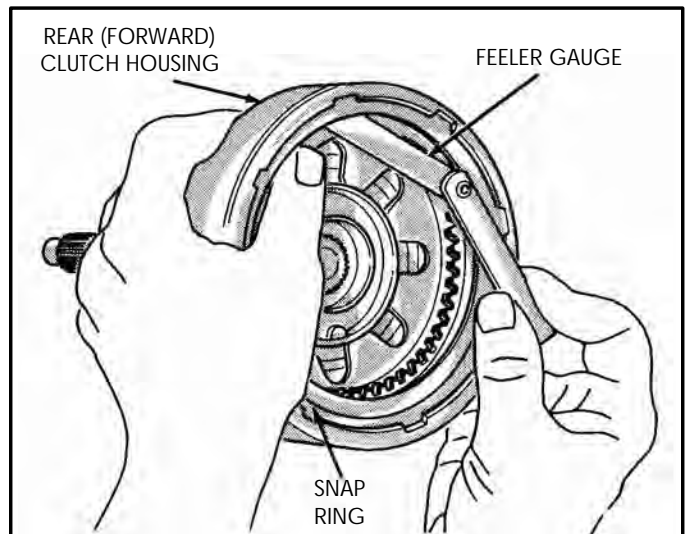

Figure 78
20. Check the clutch clearance by measuring with a feeler gauge, between the bottom of snap ring and top of the pressure plate (See Figure 78)